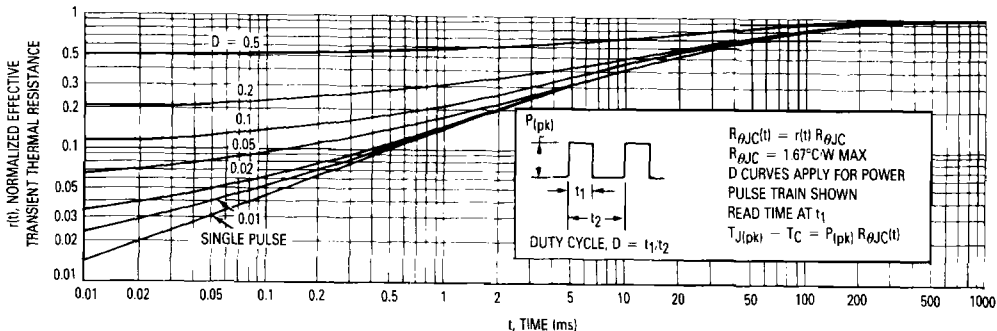

Figure 9. Thermal Response
- $r(t)$  = normalized thermal response from Figure 9.